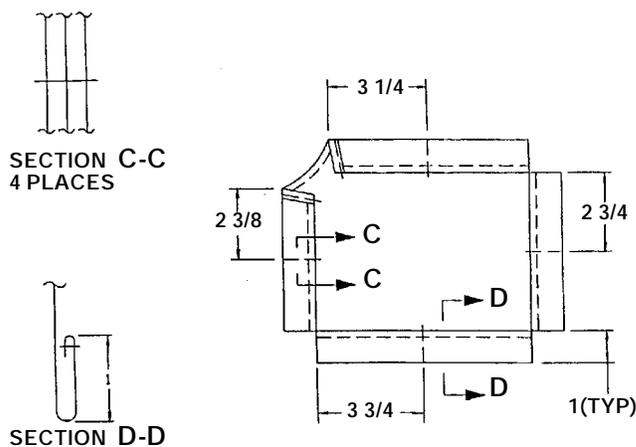

Figure 15. Fold Edges and Sew
e. Fold edges and sew per Figure 15.